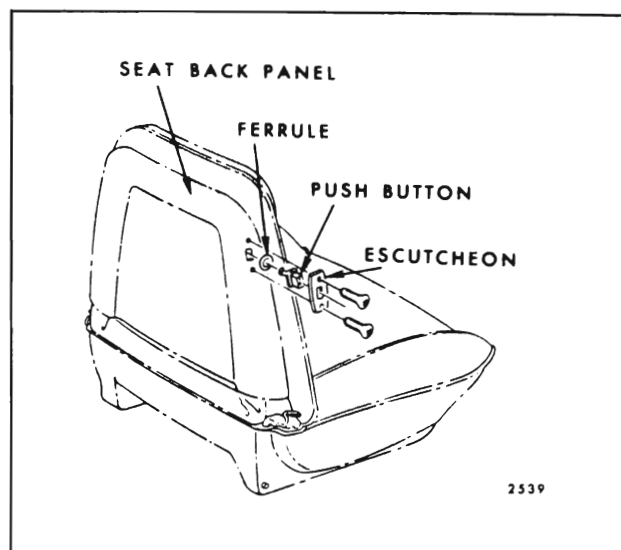

Fig. 15-34—Strato Seat Back Lock Push Button
1. Remove seat back lock push button escutcheon attaching screws and remove push button escutcheon, push button and ferrule (Fig. 15-34).